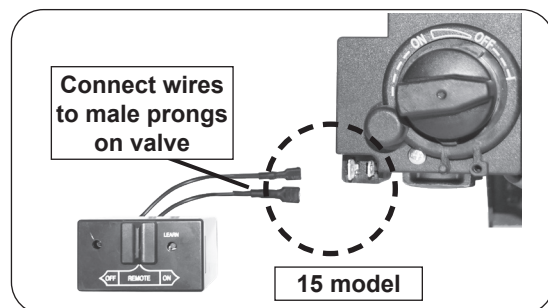

Fig. 15-3 Connect receiver to valve (if applicable)
2. Locate the wires coming off of the remote receiver, and connect them to the two male prongs found on the valve (see Fig. 15-3).